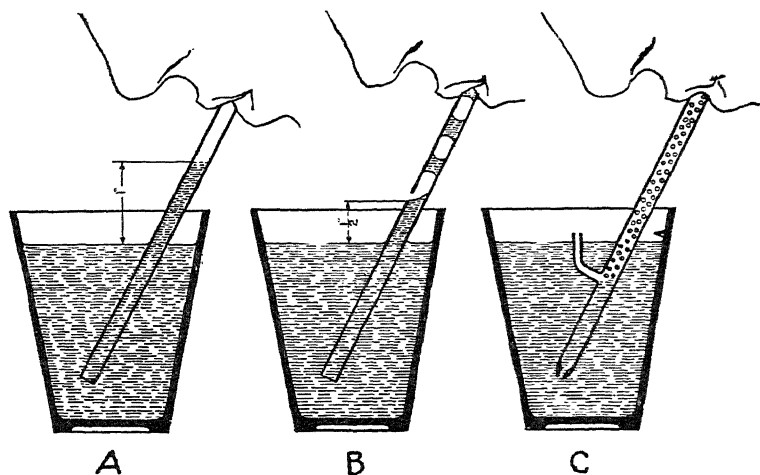

Fig. 47. Principle of Air-Bleeding a Jet
**Action of Air-Bleed.** The Stromberg application of the air bleed is illustrated in Fig. 47 at *C*. Just as a boy will use a straw to draw milk from a glassful, as shown at *A*, so may the carburetor action be considered. It will be noted that at *A* the fuel is being drawn without any air. However, if a small hole is placed in the straw, as shown at *B*, it will be noted that the same suction as before allows bubbles to enter and the milk will be drawn upward in a continuous series of drops. At *C*, illustrating the air-bleed principle, it will be noted that an additional tube has been set into the original tube or straw at a point somewhat below the top surface of the fluid. Suction on the tube now introduces a considerable